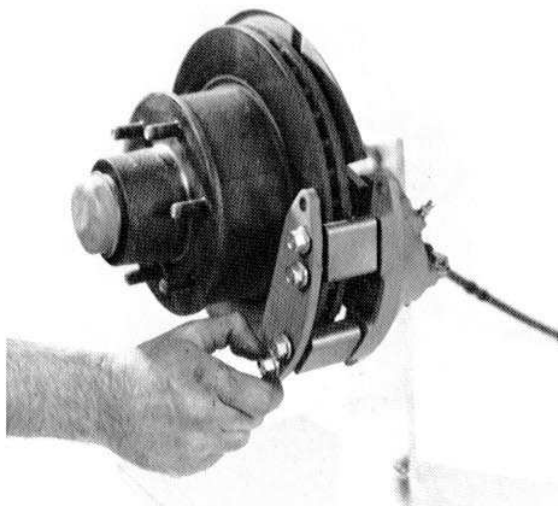

Fig. 29
5. Remove four (4) brake assembly bolts, backing plate and two (2) spacers. (See Fig. 29)